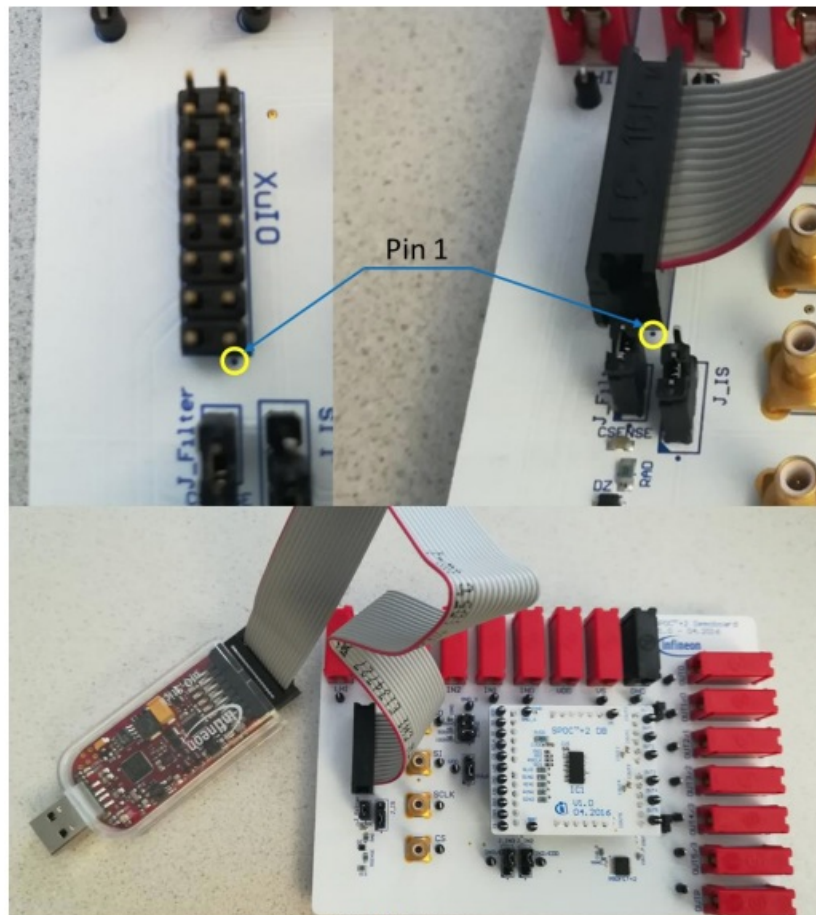

Figure 12 - Connecting μ IO-Stick to SPOCTM+2 MB
- Connect the μ IO-Stick to the SPOCTM+2 MB via the connector cable (see Figure 12)